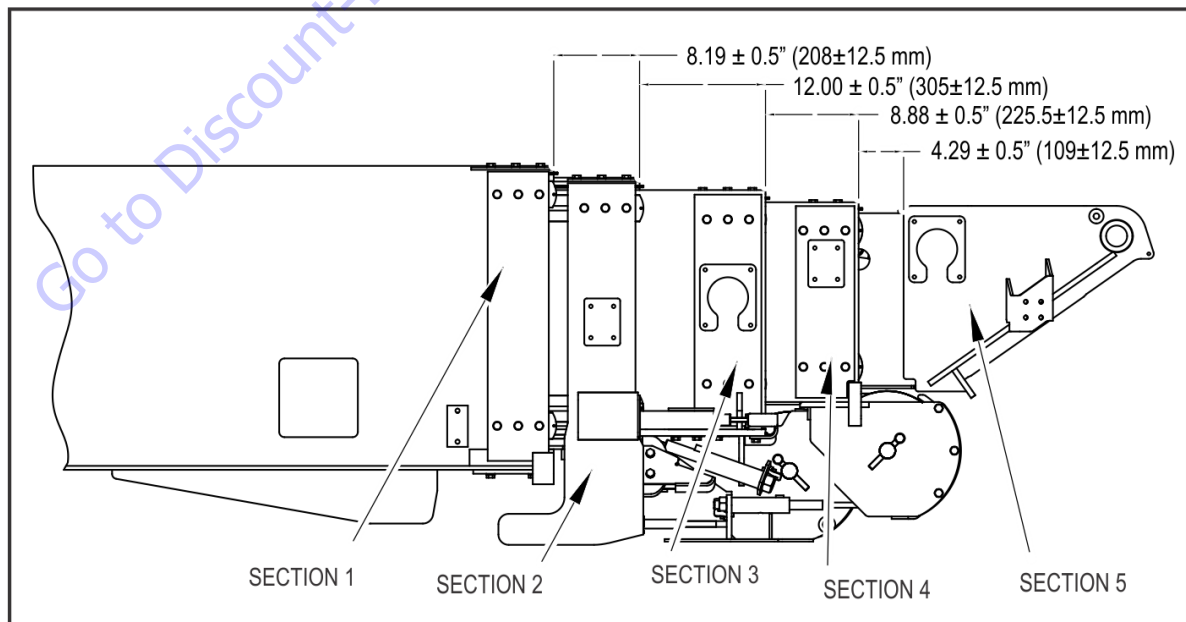

Figure 4-40. Fully Retracted Boom Section Positions
If new wire ropes are installed, there is a general starting point for the initial exposed thread length for each wire rope adjuster stud. Refer to Figure 4-40., Fully Retracted Boom Section Positions for these dimensions. The proper position of the boom sections (See Figure 4-40.) must be achieved with wire rope equalized on both sides of the sheaves and ropes properly seated in sheave grooves prior to tensioning. This will allow for proper tensioning of the wire ropes.
- Before making any adjustments, confirm the boom assembly is in the fully retracted position (See Figure 4-40., Fully Retracted Boom Section Positions).
- Take preliminary measurements of the position of each boom section with the boom in the fully retracted position and compare them to Figure 4-40., Fully Retracted Boom Section Positions.
- If the measurements fall within tolerance shown on Figure 4-40., proceed to the Wire Rope Tensioning Procedure.
- If the measurements do not fall within the tolerances in Figure 4-40., adjust the position using the re-position procedures in this sub-section
1. If Boom Section #3 falls within the dimension and tolerance shown in Figure 4-40. with the boom fully retracted, proceed to Boom Section #4 Repositioning procedure in this section.
2. If Boom Section #3 does not fall within the dimension and tolerance shown in Figure 4-40. with the boom fully retracted, perform the following procedure:
3. If the Section needs to be RETRACTED (measured dimension is greater than dimension shown in Figure 4-40.):
4. If the Section needs to be EXTENDED (measured dimension is less than dimension shown in Figure 4-40.):
- 6. Verify that the exposed boom section dimensions meet the dimension and tolerance of Figure 4-40..
- a. If Section #3 still does not fall within the dimension and tolerance of Figure 4-40., repeat the steps outlined in 3. Boom Section #3 Repositioning.
- b. If Section #3 does fall within the dimension and tolerance of Figure 4-40., proceed to 4. Boom Section #4 Repositioning.
- 1. If Boom Section #4 falls within the dimension and tolerance shown in Figure 4-40. with the boom fully retracted, proceed to Boom Section #5 Repositioning procedure in this section.
- 2. If Boom Section #4 does not fall within the dimension and tolerance shown in Figure 4-40. with the boom fully retracted, perform the following procedure:
- 3. If the Section needs to be RETRACTED (measured dimension is greater than dimension shown in Figure 4-40.):
- 4.** If the Section needs to be EXTENDED (measured dimension is less than dimension shown in Figure 4-40.):
- 6.** Verify that the exposed boom section dimensions meet the dimension and tolerance of Figure 4-40.
- a.** If Section #4 still does not fall within the dimension and tolerance of Figure 4-40., repeat the steps outlined in 4. Boom Section #4 Repositioning.
- b.** If Section #4 does fall within the dimension and tolerance of Figure 4-40., proceed to 5. Boom Section #5 Repositioning.
1. If Boom Section #5 falls within the dimension and tolerance shown in Figure 4-40. with the boom fully retracted, proceed to Wire Rope Tensioning procedure in Section 6 of this document.
2. If Boom Section #5 does not fall within the dimension and tolerance shown in Figure 4-40. with the boom fully retracted, perform the following procedure: